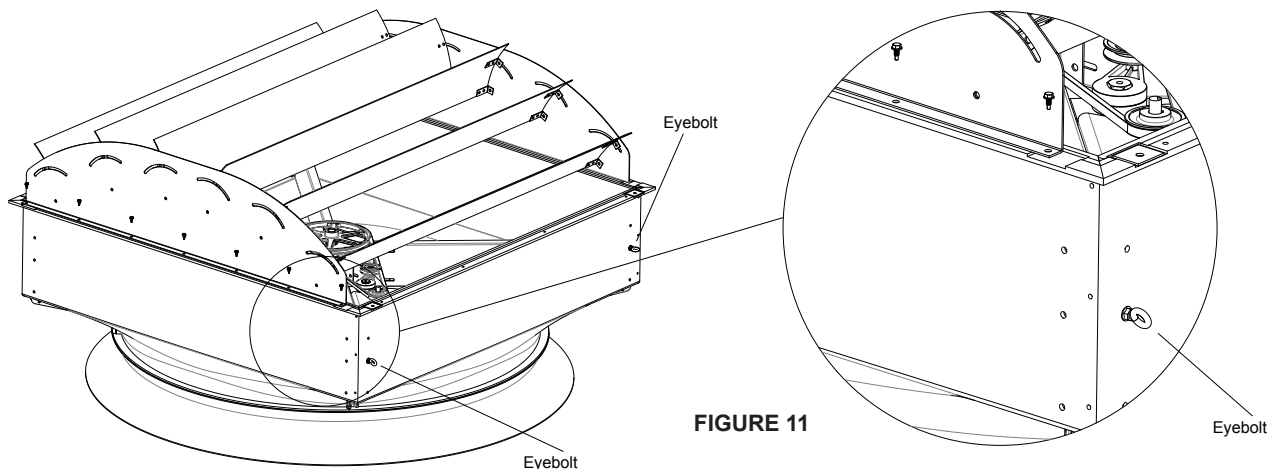

FIGURE 11
6. Attach the turning vane assembly to the fan housing by aligning the flanges of the assembly with the flanges of the housing. Using  $\frac{1}{4}$ " X  $1 \frac{1}{4}$ " Tek screws, attach the flange of each vane support securely to the fan assembly on the sides without the eye bolts as shown in Figure 11.